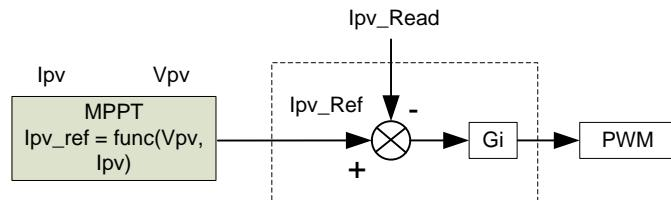

Figure 9. MPPT Control
2. Maximum power point tracking (MPPT) control, input current control (Figure 9)
To control the power stage in this mode, the control scheme shown in Figure 9 is used.